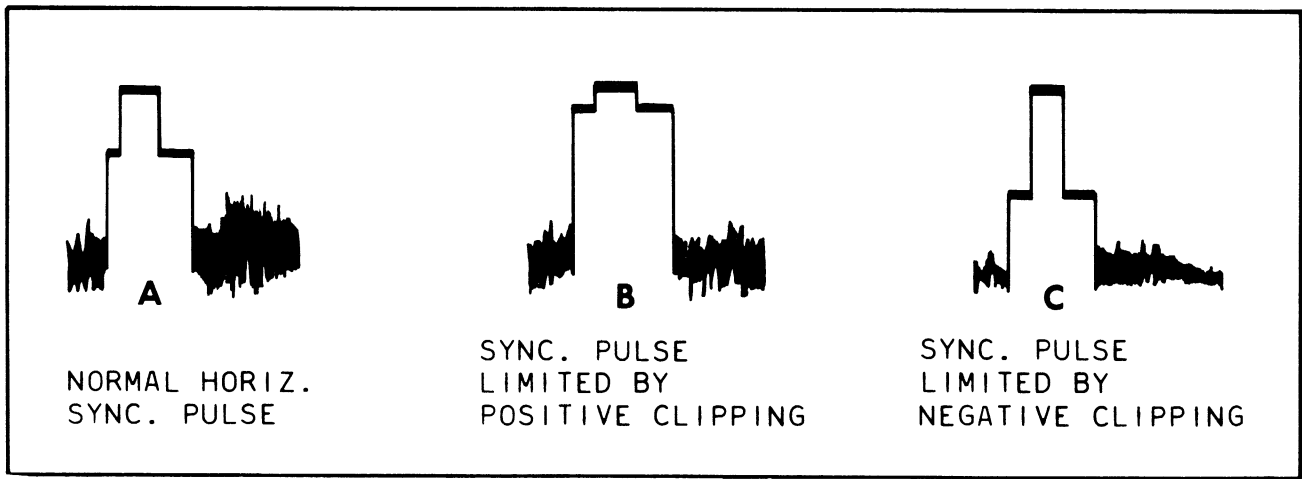

Figure 6-4. Sync. Pulse Suppression
l. Figure 6-4 shows variations possible in the shape of the sync. pulse when signal overload (or a biasing problem) prevails. Normally, the sync. pulse exceeds pedestal height by about 50%, as indicated in Figure 6-4A. If limiting occurs in the positive direction, clipping (sometimes referred to as "compression") occurs, as in Figure 6-4B. If limiting (or overload) occurs in the opposite polarity, the sync. pulse proportions are changed as shown in Figure 6-4C.